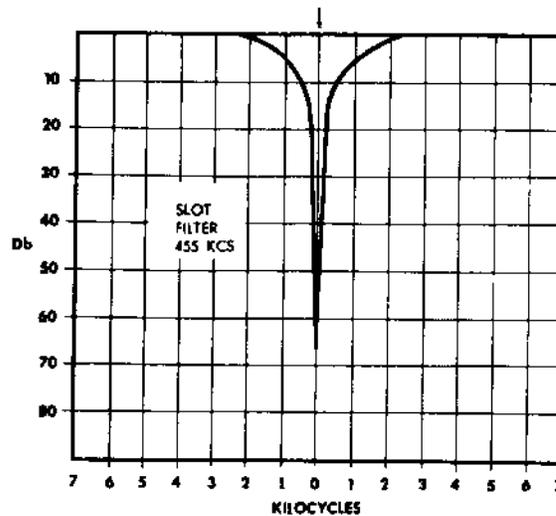

Figure 6. Slot Filter Response Curve
*** The Slot Frequency control provides an extremely sharp adjustable slot or hole in the selectivity curve (see Figure 6). It is normally located outside of the passband of the 2nd IF (455 Kcs). It